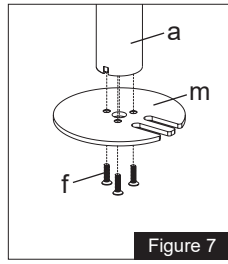

Figure 7
1. Position the Pole (A) on the mounting surface and mark the center hole. Drill a 3/8" (10mm) diameter hole at the marked position through the mounting surface.
2. Install the Grommet Base Plate (M) to the Pole (A) using x3 M5x14 Bolts (F), and tighten using the Allen Wrench (O), see Figure 7.